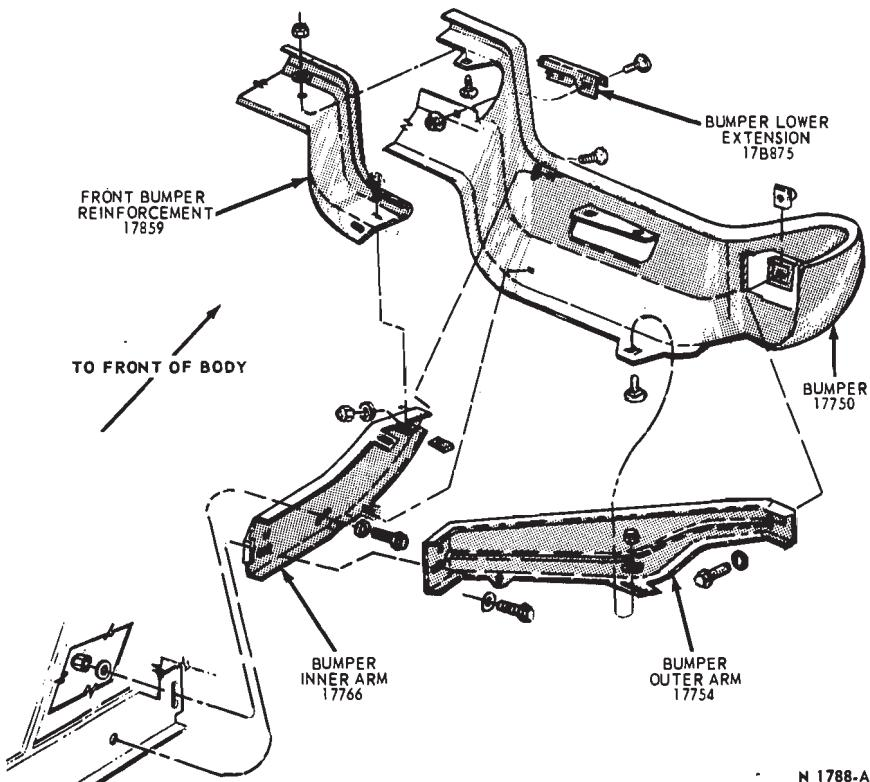

FIG. 10—Montego Front Bumper
4. Remove the lower extension and license bracket (Fig. 10).